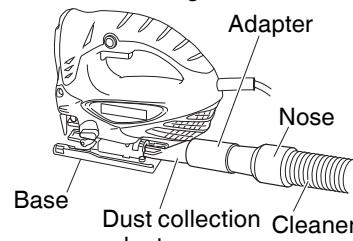

Fig. 16
- (3) Connect the dust collection adapter with adapter. (Fig. 16)
- (4) Connect the adapter with the nose of cleaner. (Fig. 16)